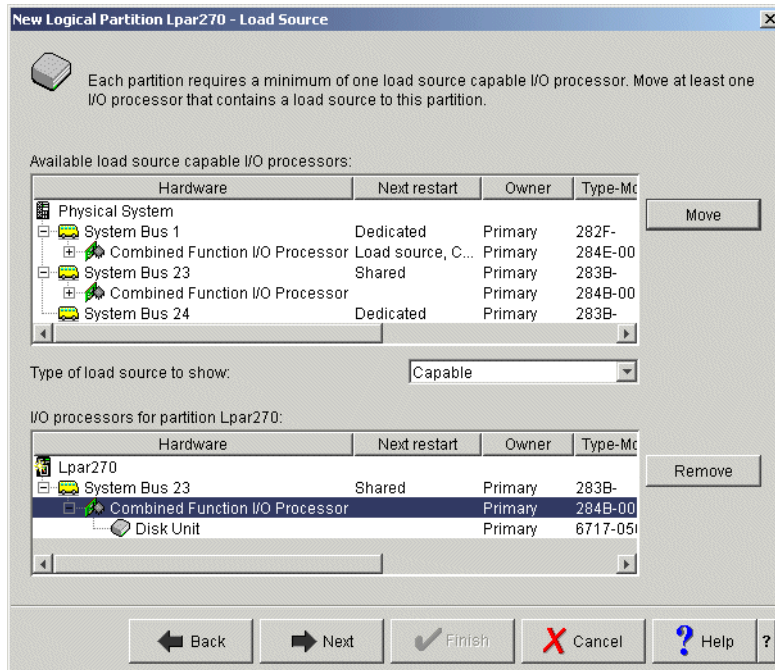

Figure 4-21 Selected IOP and attached disk unit
17. The results are shown in Figure 4-21. On New Logical Partition - Load Source panel, click **Next**.